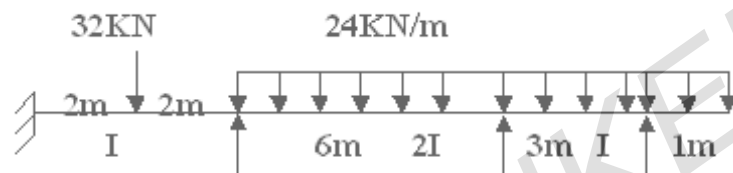

Figure 6
1. Determine the support moments for the continuous beam shown in figure 6 and draw BMD by using Kanis method. [16]